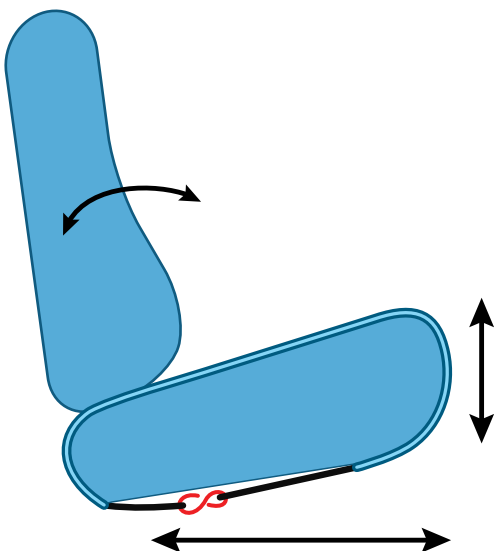

Fig. 4.9
I. Once the seat covers are completely installed with all the straps attached securely, check the functionality of your seats. Make sure the backrest can fold normally. Move the seat forward, backwards, and up and down to make sure there is no interference from the seat cover or the straps (*Fig. 4.9*). If any obstruction to the seat's movement is observed, readjust the straps to eliminate any interference.